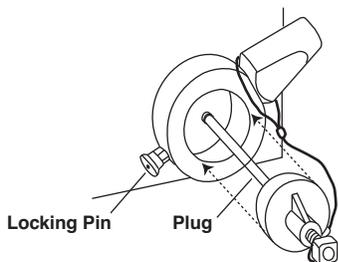

Fig. 3. Using the needle port plug.
**4.1 Warning (for 3725(i)-038 and 3725(i) only):** Use the needle port plug attached to the handle assembly to shield yourself from mobile phase coming out of the needle port when the valve is turned from INJECT to LOAD (see Figure 3).